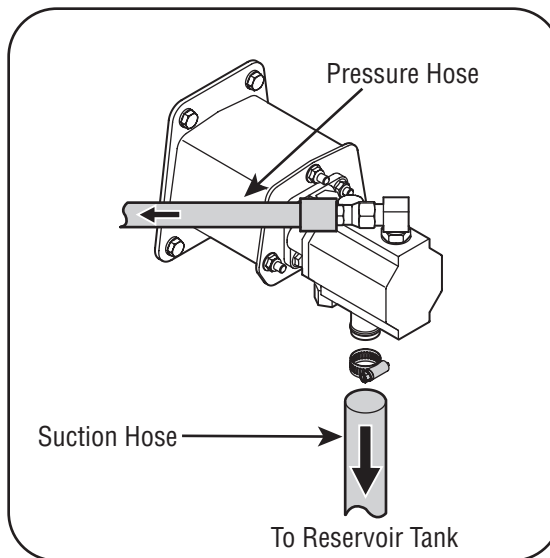

Figure 3-9
3. Attach the end of the suction hose to the fitting on the bottom of the pump. See Figure 3-9.
2. Secure the pressure hose to the adapter on the top of the pump. See Figure 3-9.